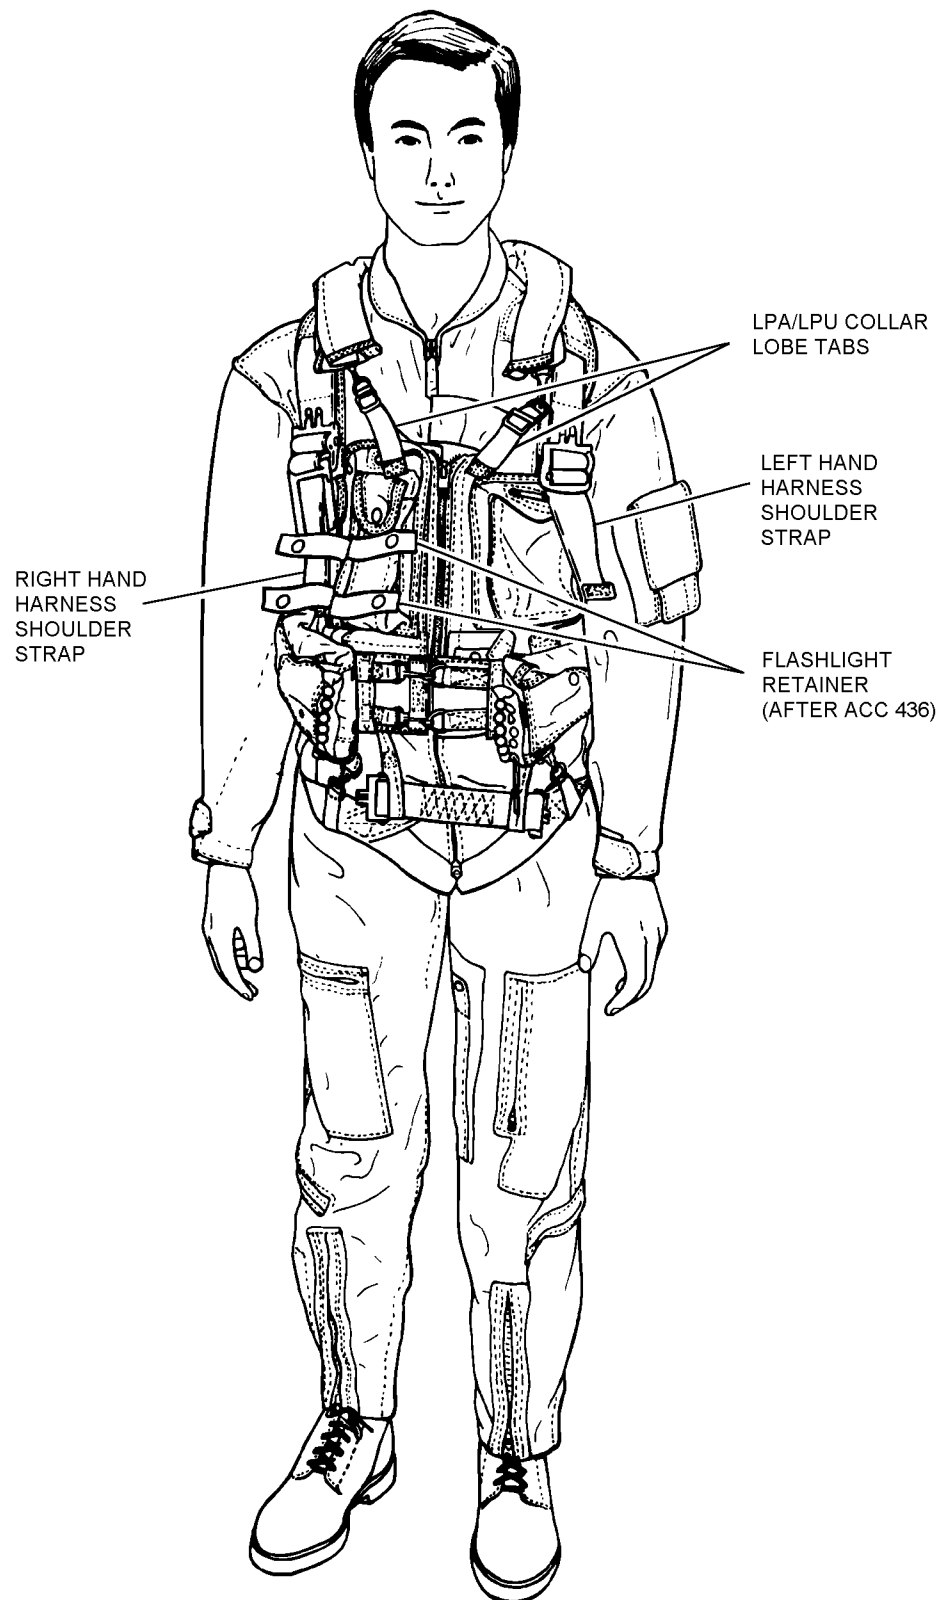

Figure 6-9. Donned PCU-Series Torso Harness Modified IAW ACC 380 and LPA/LPU Life Preserver
7. Check adjustment on all straps. See figure 6-9.